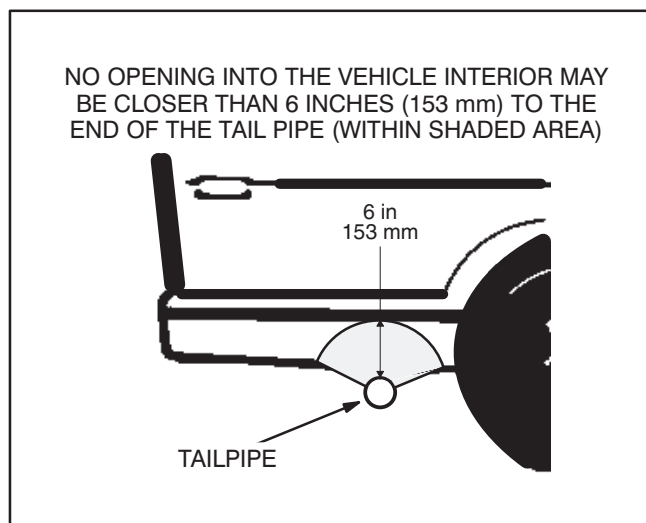
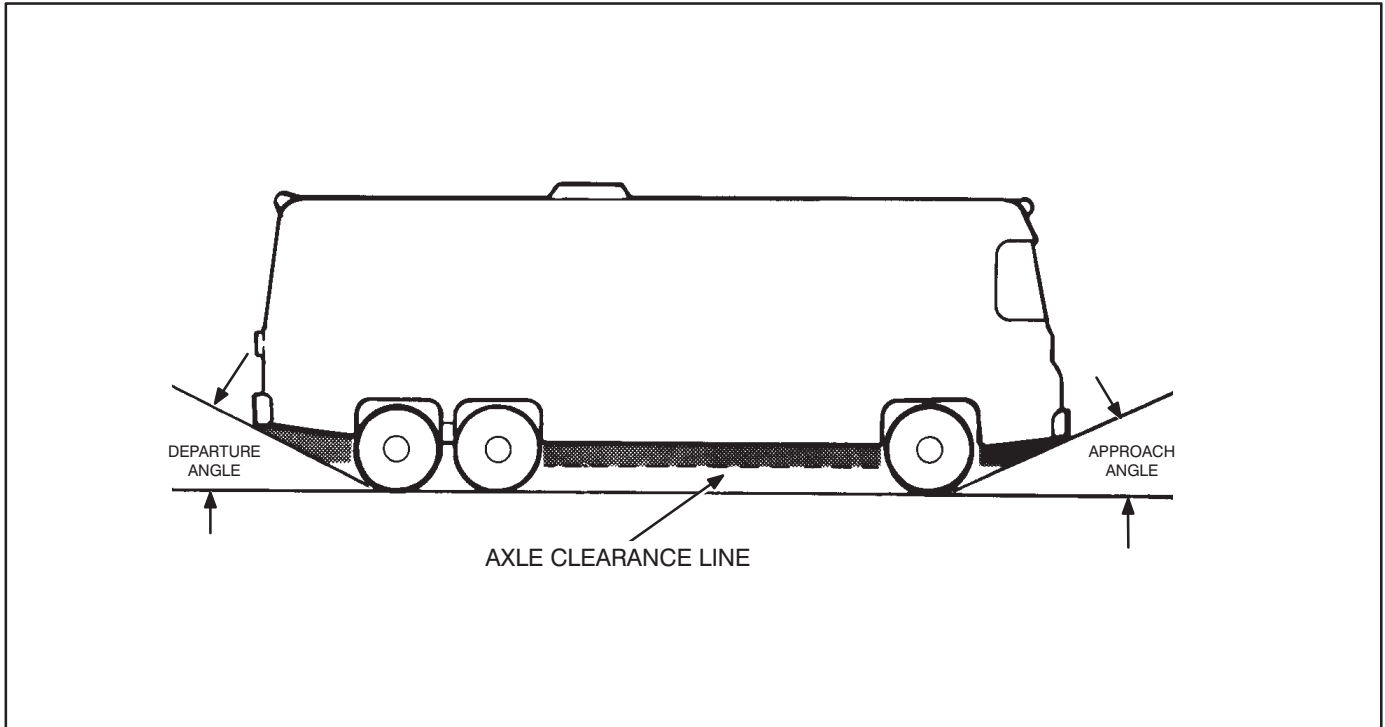

FIGURE 9. MINIMUM DISTANCES TO OPENINGS
FIGURE 10. APPROACH AND DEPARTURE ANGLES AND AXLE CLEARANCE LINE
⚠️WARNING *EXHAUST GAS IS DEADLY! To keep exhaust gases from entering the vehicle do not terminate the exhaust tailpipe underneath the vehicle or closer than specified to openings into the vehicle (Figure 9) or route it such that it is likely to be damaged (Figure 10). Use approved materials and parts only.*
9. Do not terminate the tailpipe such that it is closer than 6 inches (153 mm) to any opening into the vehicle interior (door, window, vent). See Figure 9.
10. Route the tailpipe such that it will not likely be struck when the vehicle is moving. At least keep it out of the approach and departure angles of the vehicle and above the axle clearance line (Figure 10).